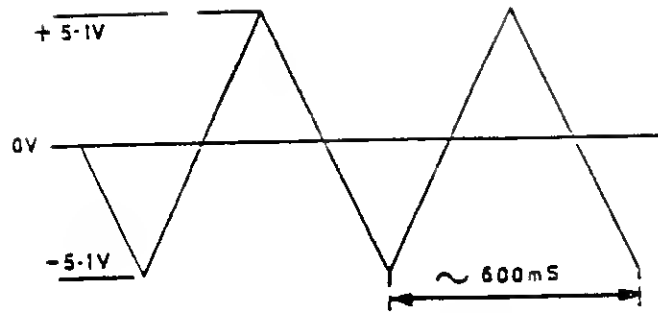

Figure 6.36 - Trigger Level Waveform
- f. Verify that the Channel A and B TRIG LEDs are flashing and that the displayed waveform is as shown in Figure 6.36